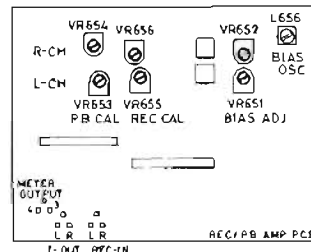

Fig. 3-1
3. Output should be measured at pin 3 (L-ch) and pin 4 (R-ch) on the rec/playback amp p-c board. Input signal should be applied to REC IN terminal on the rec/playback amp p-c board (see Fig. 3-1).
4. Play back test tape LCT-7001, and adjust potentiometer VR653 (VR654 for R-ch) on the rec/playback p-c board (Fig. 3-1) so that the AC voltmeter reads 580 mV.
4. If recording and playback levels differ from each other, repeat step 3 until the two levels become almost equal, by adjusting potentiometer VR655 (VR656 for R-ch) on the rec/playback p-c board (Fig. 3-1) while recording.
6. Play back the recorded tape. If there is a difference in playback level between the two signals, adjust potentiometer VR651 (VR652 for R-ch) on the rec/playback p-c board (Fig. 3-1), by repeating recording and playback until the difference of output level is within ± 1 dB.